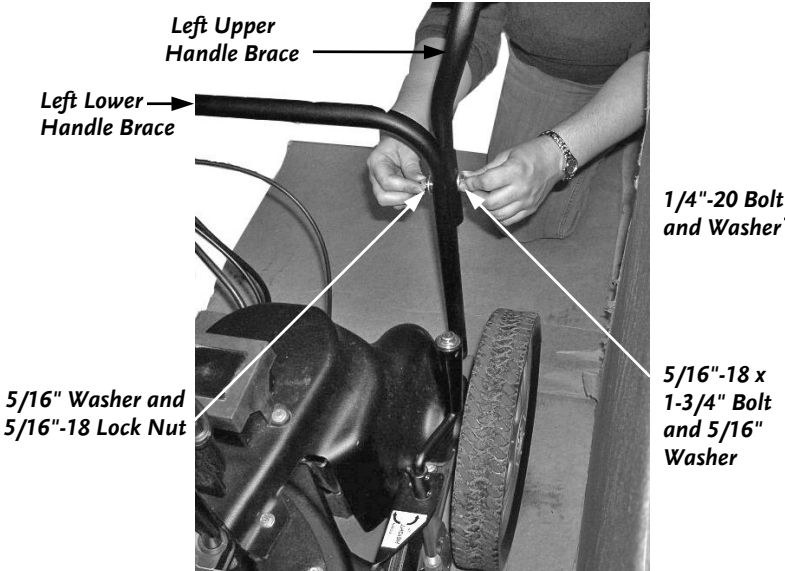

Figure 4a
1. Place the Top Shield/Upper Handle Assembly on the Lower Housing (**Figure 4b**) and then place the Left Upper Handle Brace (**Figure 4a**) against the outside of the Left Lower Handle Brace and line up the mounting holes.
2. Install a 5/16"-18 x 1-3/4" Bolt with a 5/16" Flat Washer through the Upper and Lower Handle Braces from the outside (**Figure 4a**).
4. Install a 5/16" Flat Washer followed by a 5/16"-18 Lock Nut to each of the Left and Right 5/16" Bolts (**Figure 4a**) and only finger tighten at this time.